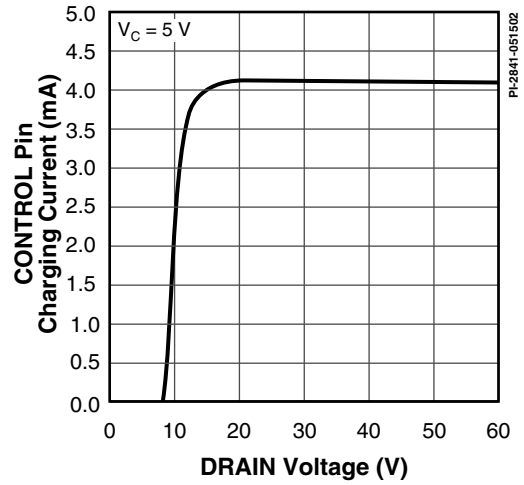

Figure 45.  $I_C$  vs. DRAIN Voltage.
- D. It is possible to start up and operate *DPA-Switch* at DRAIN voltages well below 16 V. However, the CONTROL pin charging current is reduced, which affects start-up time, auto-restart frequency, and auto-restart duty cycle. Refer to Figure 45, the characteristic graph on CONTROL pin charge current ( $I_C$ ) vs. DRAIN voltage for low voltage operation characteristics.